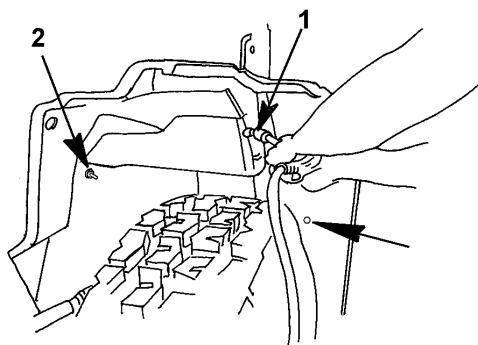

Figure 46 Fender Extension Install
4. Loosen and remove the stud mounting nut (Figure 46, Item 2) from the fender extension mounting stud.